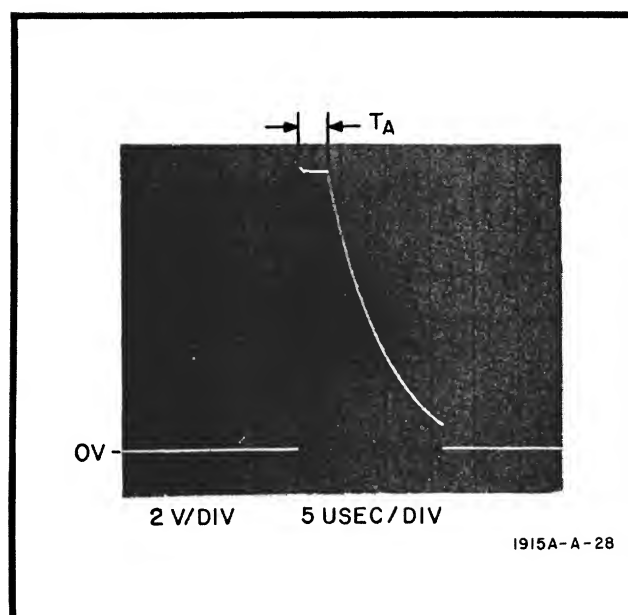

Figure 5-20. Positive Overload Test Pulse
q. Using monitor oscilloscope observe Model 1915A output. Output should be similar to that shown in Figure 5-20. T_A should be less than 5 usec.